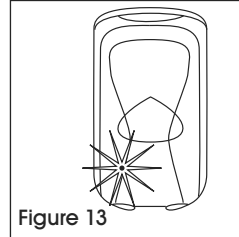

Figure 13
5. Close dispenser cover. Status light will blink green after closing, indicating that batteries are correctly installed and dispenser is ready to accept refills. (See Figure 13)